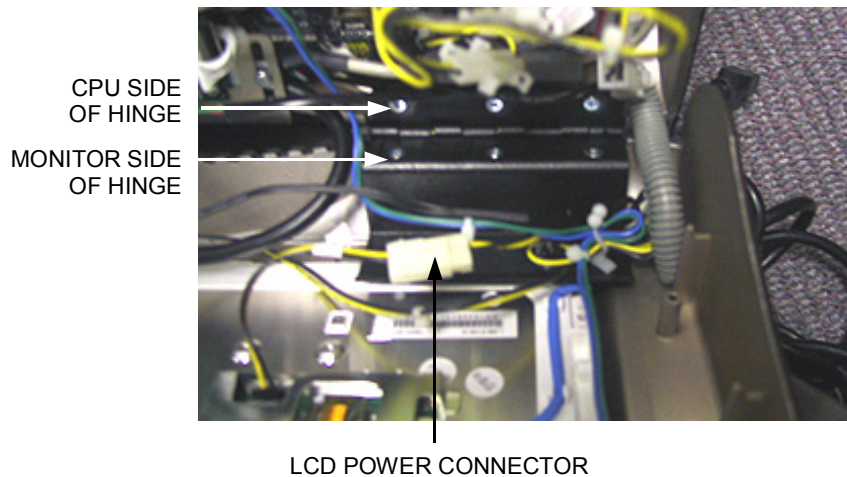

FIGURE 33 - CLOSE-UP OF MONITOR HINGE
7. Disconnect the LCD power connector (black and yellow wires). See Figure 33.
10. Loosen the 3 screws on the monitor side of the hinges in order to raise the hinges and allow room to remove the monitor. See Figure 33.
17. Carefully slide the new monitor into the bezel, making certain that the white edge of the monitor and the monitor wire connections are facing the bottom of the bezel. Ensure that the monitor is properly centered, then tighten the hinge screws. See Figure 33.
22. Connect the LCD power connector (black and yellow wires). See Figure 33.